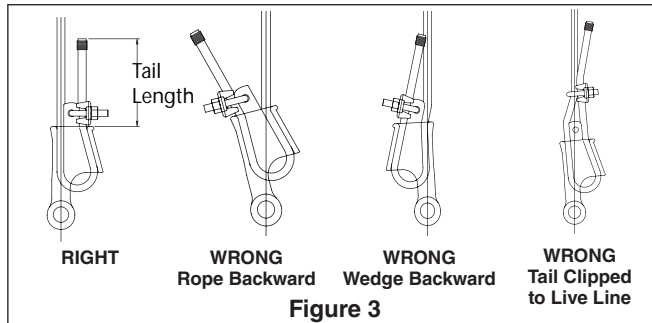

Figure 3
- Pull on live line to remove excess out of loop, leaving enough room to properly insert wedge into basket. (See Figure 3).